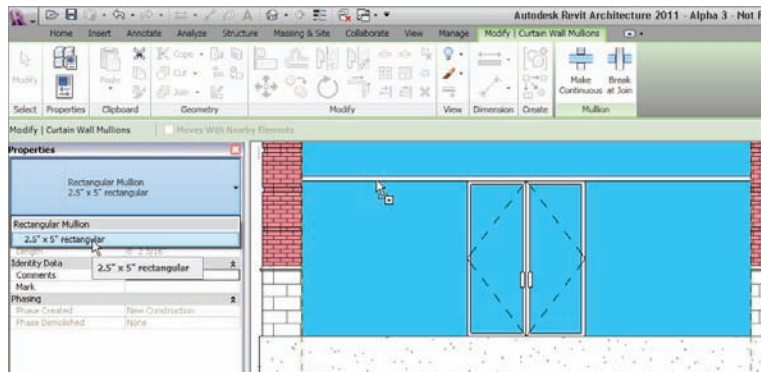

FIGURE 16.36 Place the 2.5" × 5" (64mm × 127mm) rectangular mullion above the door.
3. Pick the grid above the door, as shown in Figure 16.36.